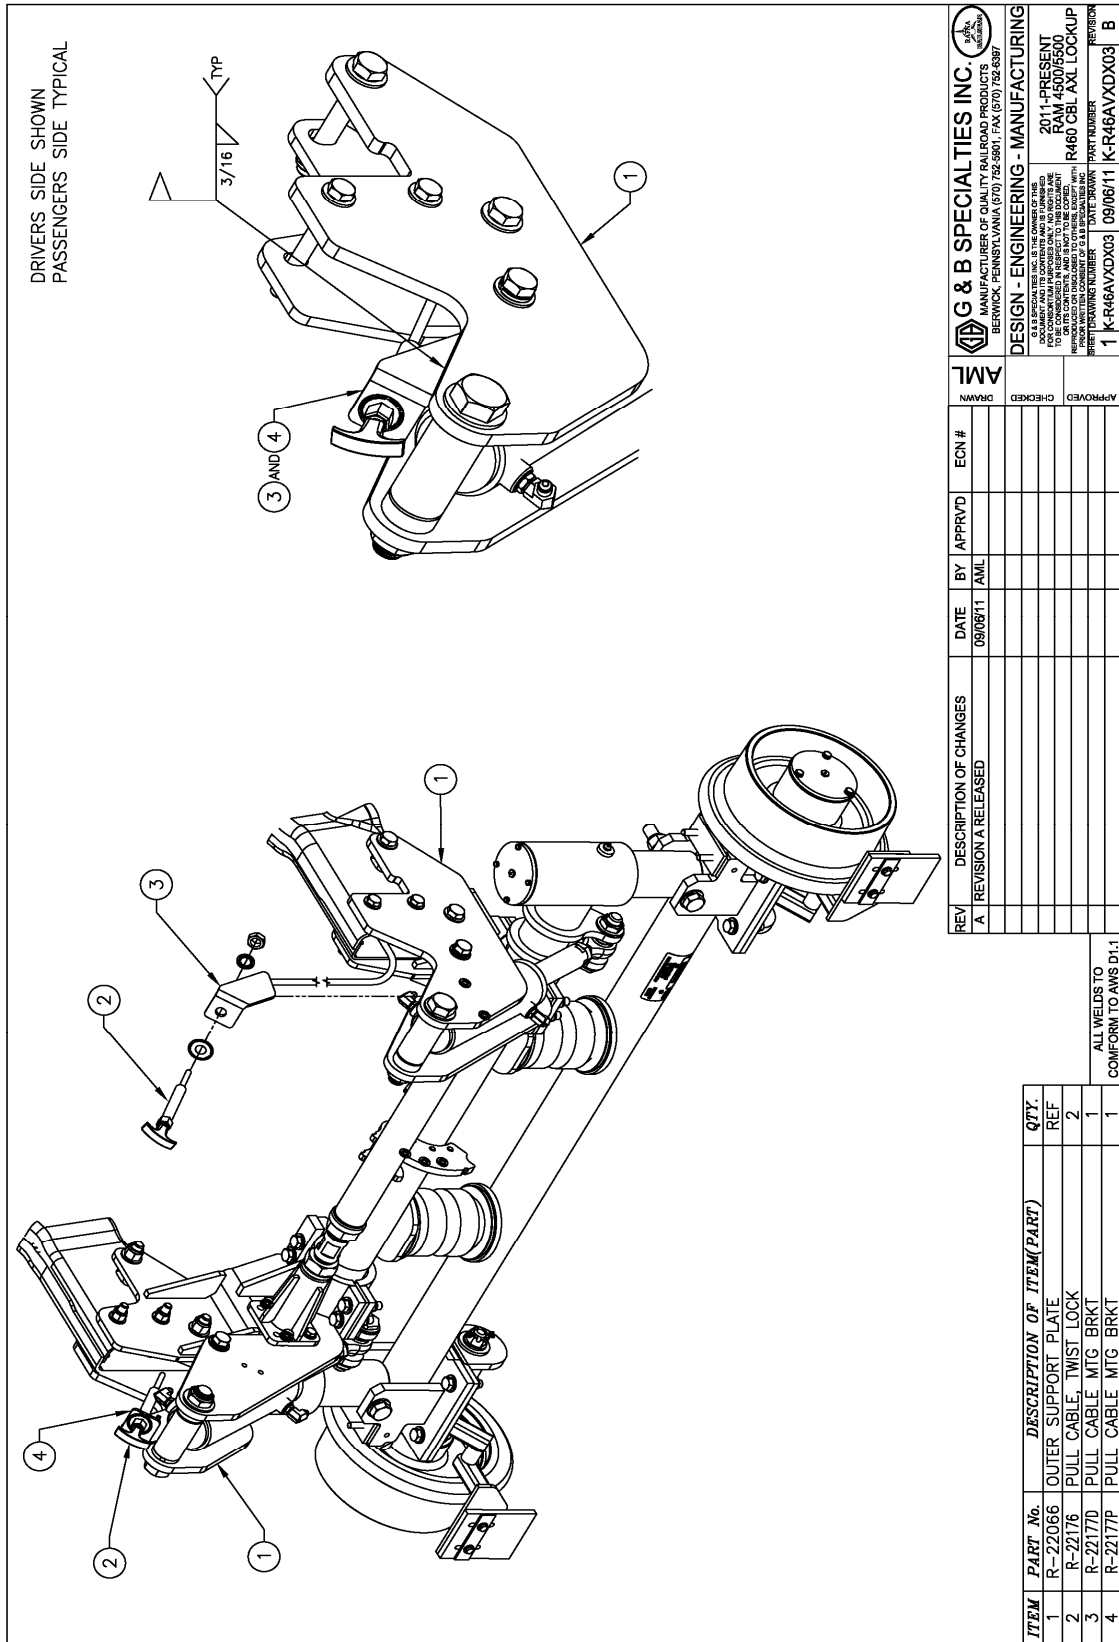

Figure 2
5. Place the axle lockup hook on the pivot stud and hold lockup hook underneath the spacer leaving about 1/4" between the hook and the spacer and weld the mounting block to the shock tower. See Figure 2 for reference.
7. Fasten the T-knob end of the cable to the mounting bracket as shown in Figure 2.
8. Clamp mounting bracket to outer support plate Figure 2.
13. While holding the pull cable support bracket against the frame, extend the cable for road position to ensure the hook will be clear of the brake lines as shown in Figure 2.
18. Position and field weld the handle support bracket to the outer support plate as shown Figure 2.